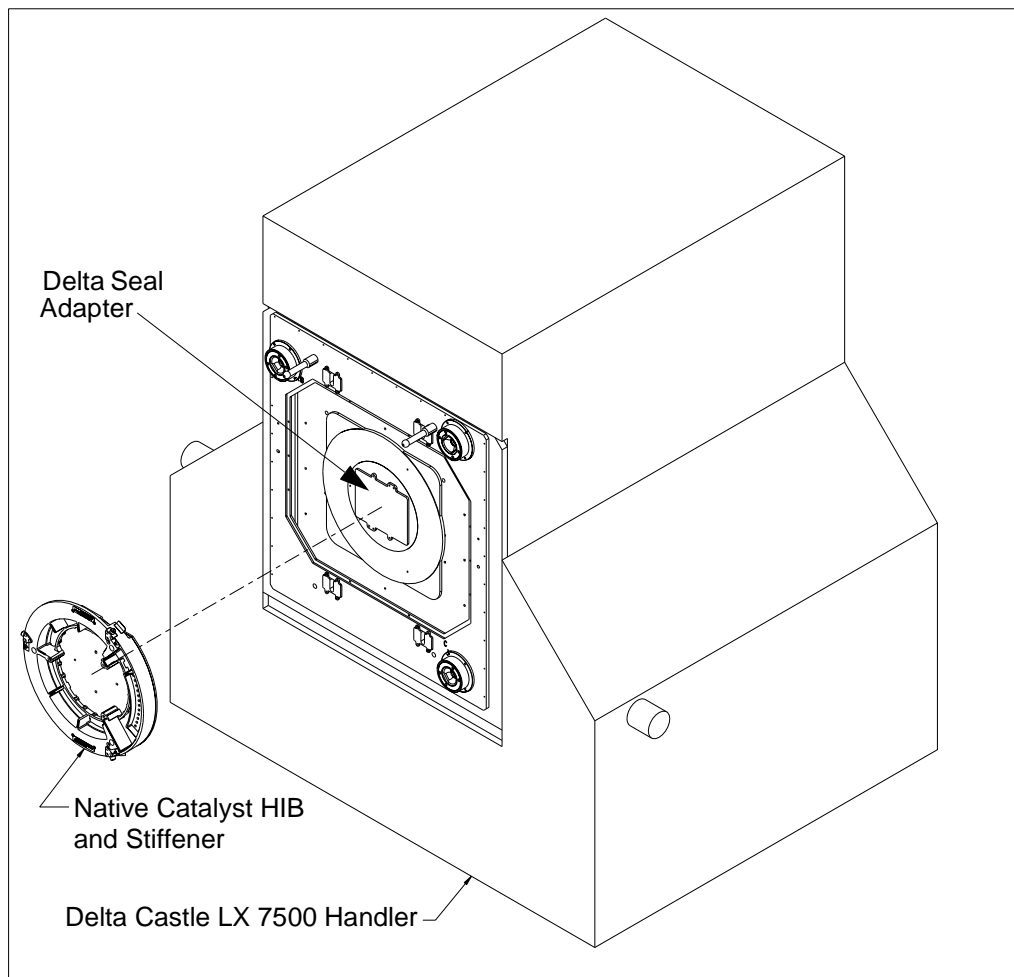

Figure 8 Native Catalyst HIB Attachment
- 26) To attach a native Catalyst HIB, orient it with the flush circular edge positioned as shown in Figure 8.
- 28) Secure the HIB to the Delta seal adapter using the three stiffener captive screws (#10-32). See Figure 8.